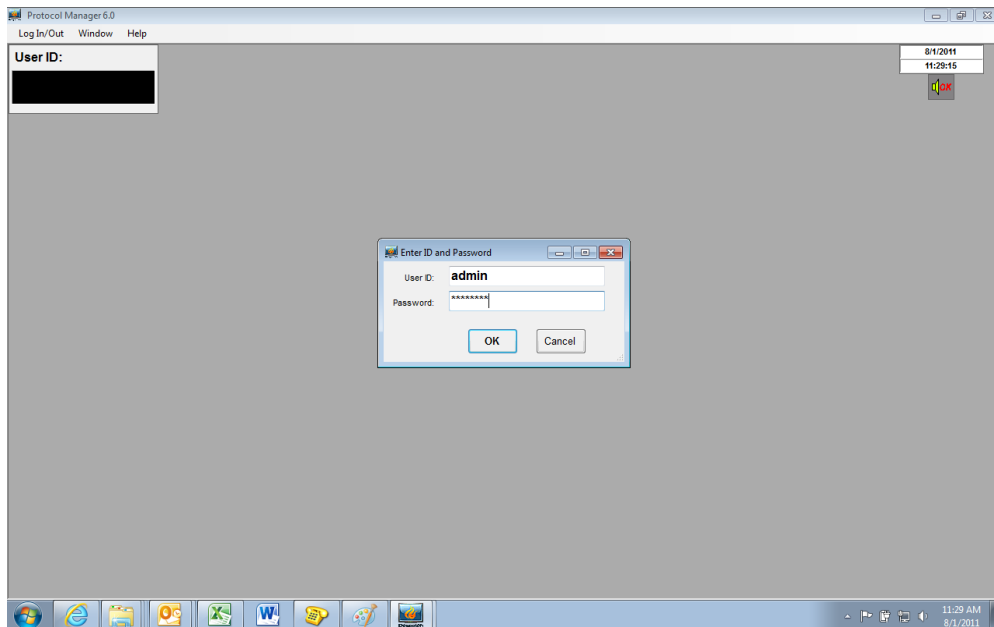

Figure 6: User ID and Password Entry
2. From the main screen that appears, select **Login** from the pulldown menu (or double-click where it says **(logged out)** to log in. Note that an **Operator ID** must be typed in, to log into the software. Type **despatch** into the **Password** space. See Figure 6. NOTE that the **Operator ID** can be up to 16 characters long.